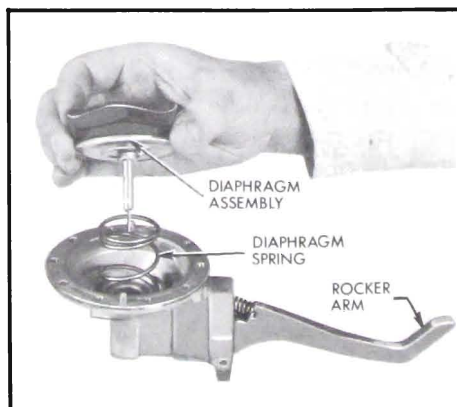

Figure 3-24—Diaphragm Assembly
1. If rocker arm and link were removed (subpar. b above), place new rocker arm spring and link in position in pump body with rocker arm and use a slightly undersize rod through pin hole to line them up. See Figure 3-24. Drive new rocker arm pin through body, forcing lineup rod ahead of it. Install new steel washer over small end of rocker arm pin, support head of pin on a suitable steel block, andpeen small end of